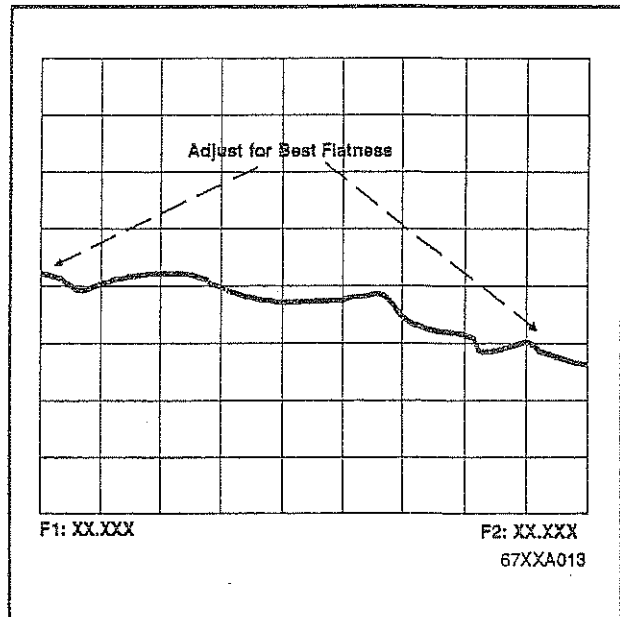

Figure 3-11. Level Detector Waveform
3. On the 562 Network Analyzer, observe that the waveform displayed is similar to that shown in Figure 3-11.